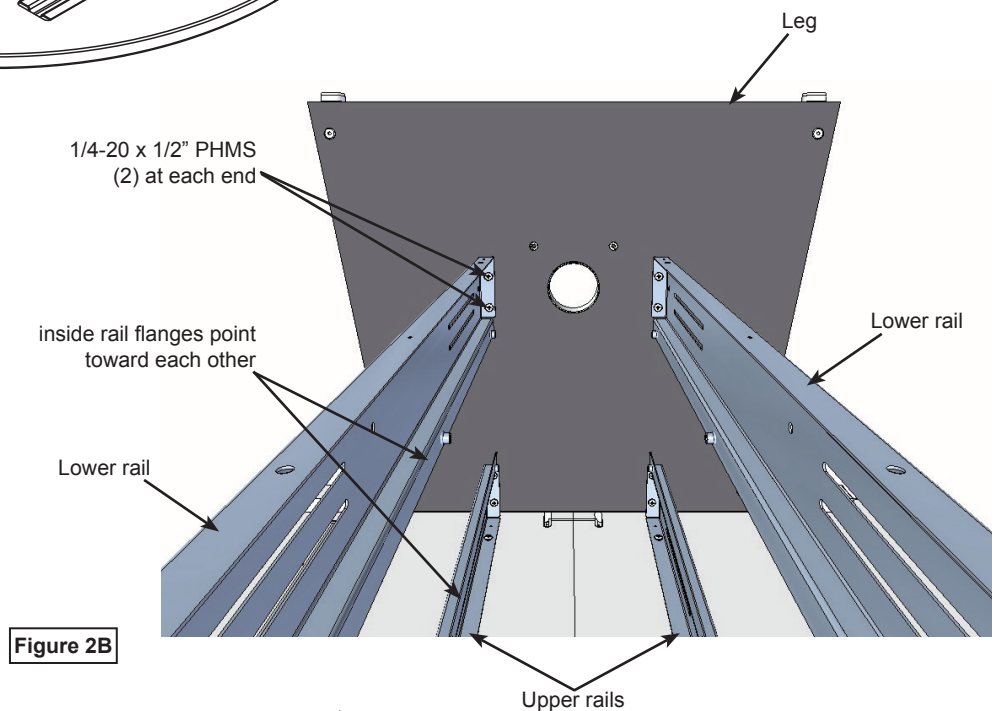

Figure 2B
- B. Orient the lower cord channel rails with the inside rail flanges pointing toward the upper rail flanges as shown and attach the end of each rail to each leg with (2) 1/4-20 x 1/2" PHM screws. **Figure 2B.**